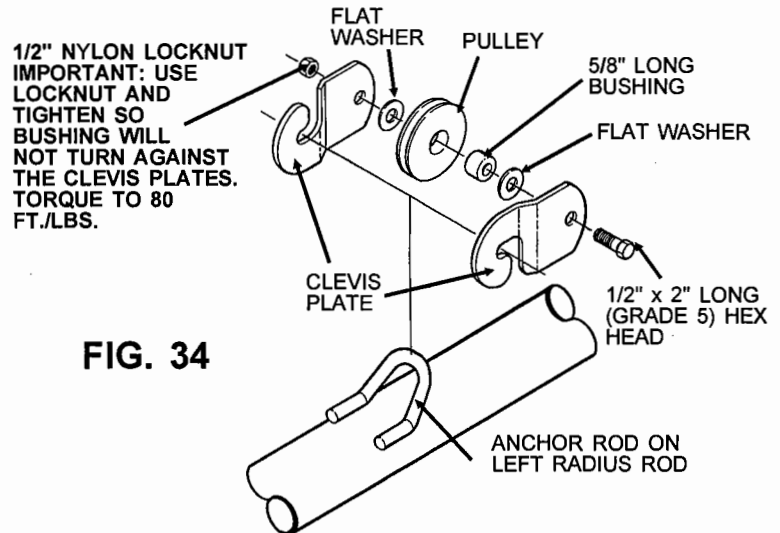

FIG. 34
Step 32. Hook clevis plates over anchor rod on left radius rod. Then assemble bushing, flat washers and cable pulley between the clevis plates using 1/2" x 2" long (grade 5) hex head capscrew and nylon locknut. After the locknut is tightened, check to see that the clevis plates are captured on the anchor rod and cannot come off. See Fig. 34.